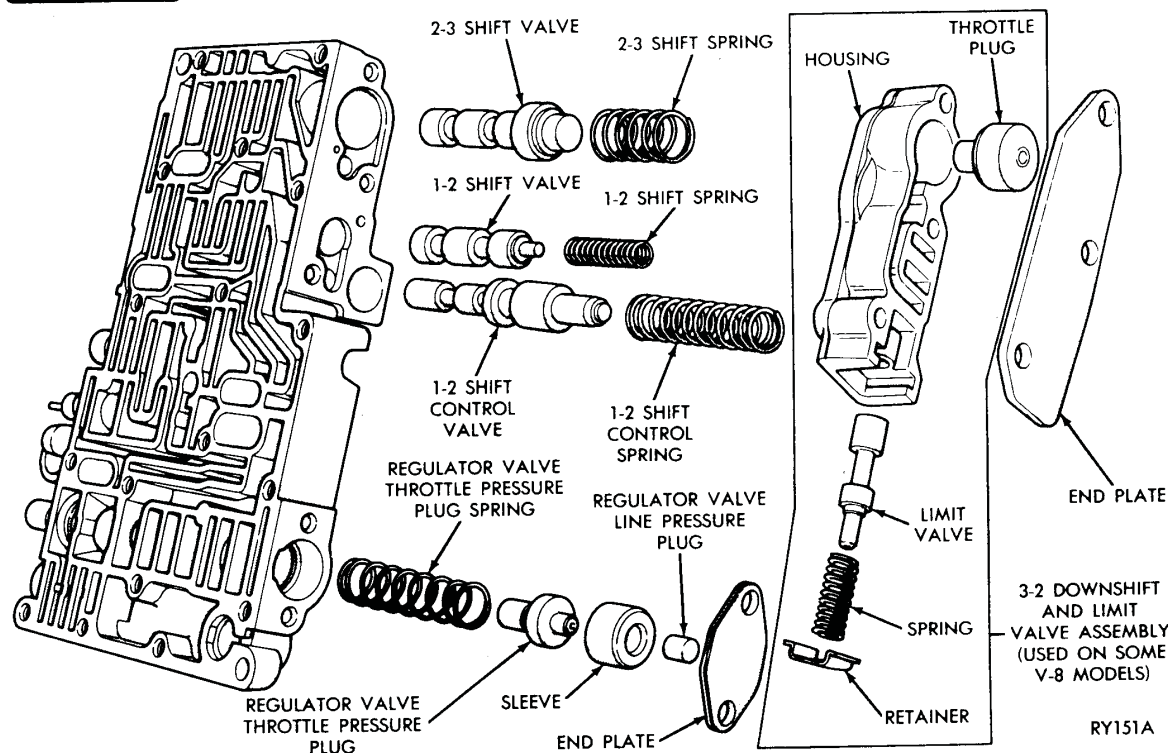

Fig. 7—Shift Valves and Pressure Regulator Valve Plugs
- (1) Remove the line pressure regulator valve end plate (Fig. 7) and slide out the regulator valve sleeve, line pressure plug, throttle pressure plug, and spring.
- (2) Remove the end plate and limit valve housing assembly.
- (3) Remove throttle plug from housing.
Shift Valves and Regulator Valve Pressure Sensing Plugs (Fig. 7)